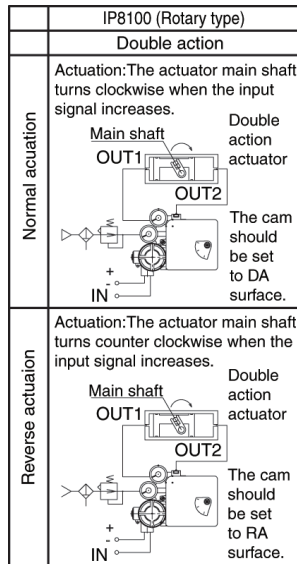

FIG.5 Direct / Reverse actuation
- Check for correct use of the cam face (normal or reverse) and that the flange nut is firmly locked (refer to Fig.5).